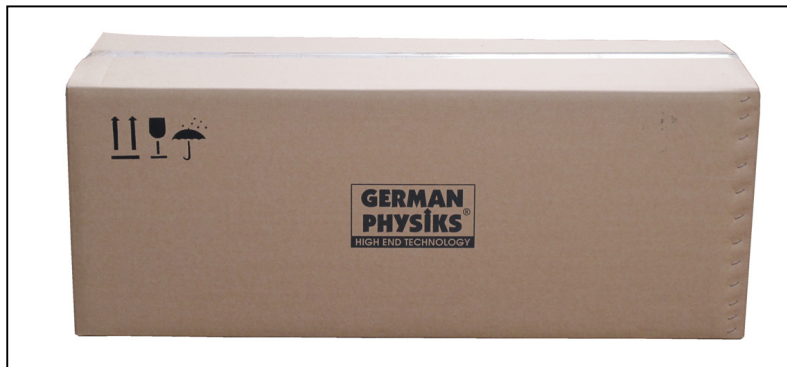

Figure 1. Borderland Mk IV shipping carton
Each Borderland Mk IV is packed in a single carton. This must be kept horizontal as shown in figure 1. Before opening the cartons, please inspect them for damage. If you see any damage, please contact the supplying audio dealer immediately and provide them with a full description of the damage. Do not unpack the loudspeakers until you have spoken with the dealer and have been advised how to proceed.
1. Place the carton as shown in figure 1 and carefully cut the sealing tape on the top flaps.